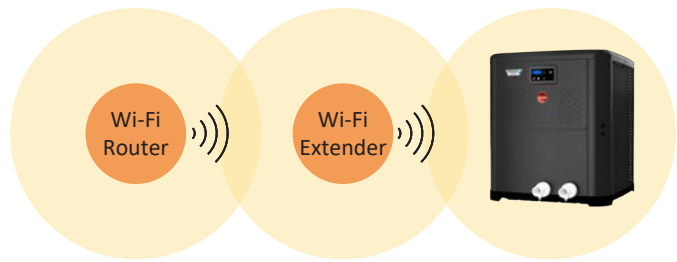

Figure 121. Wi-Fi Extender
- Add a Wi-Fi range extender to cover heater zone or enable a new Wi-Fi access point. See Figure 121.